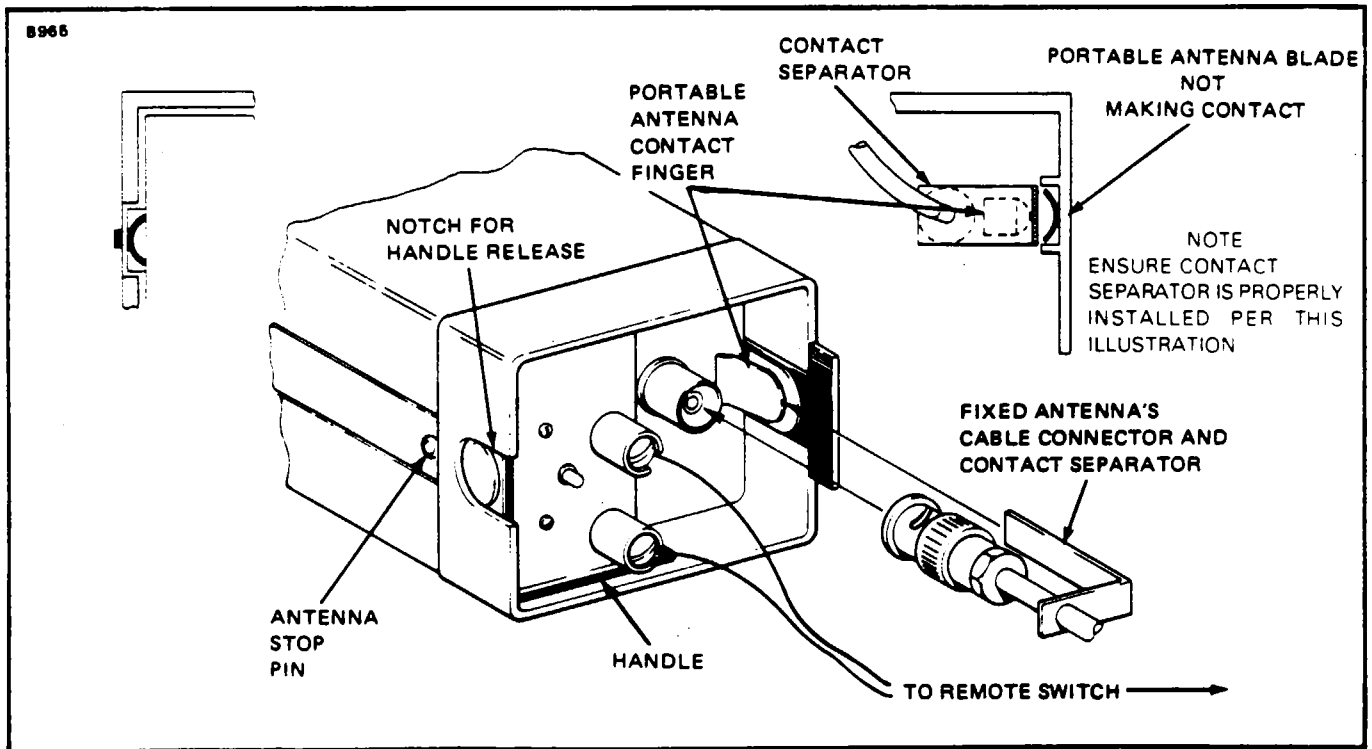

Figure 12-8. ELT Using Fixed Aircraft Antenna (Narco.)
13. Connect the antenna coaxial cable to the ELT and ensure that the contact separator is inserted between the antenna contact finger and the portable antenna. (Ref. Fig. 12-8.)